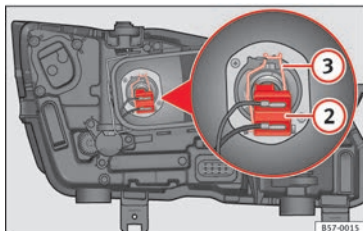

Fig. 106 In the engine compartment: dipped beam headlight.
3. Remove connector » **Fig. 106** ② from the bulb.
4. Unclip the retainer spring » **Fig. 106** ③ pressing clockwise and inwards.